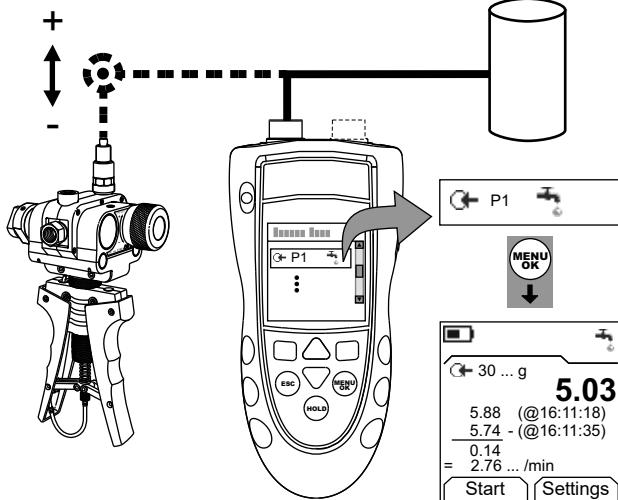

Figure 3: Example Configuration - Leak Test
- Connect the instrument (Figure 3) and, if necessary, adjust the *Set Up* (Table 1).